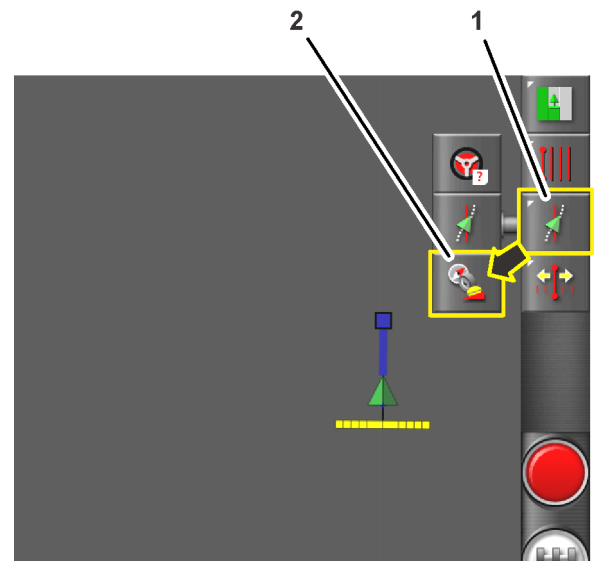

Figure 166
1. Press the STEERING OPTIONS icon (Figure 166).
2. Press the STEERING CALIBRATION icon (Figure 166).